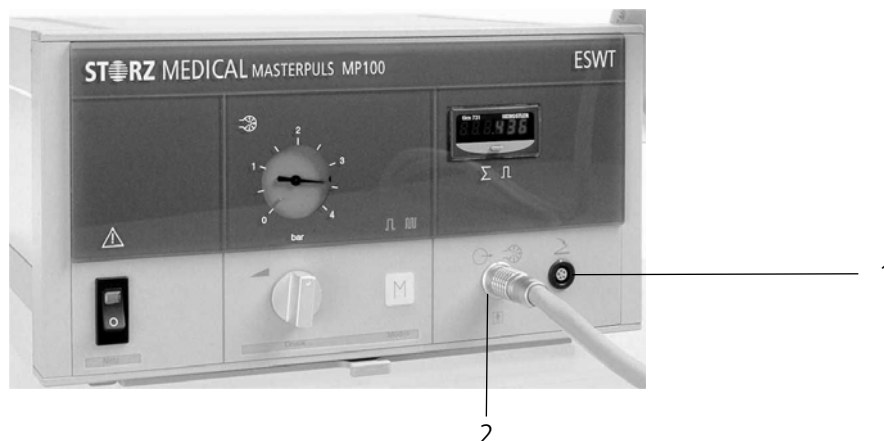

Fig. 2 – 6 Applicator connector
- Connect the applicator cable to the applicator connector (Fig. 2 – 6/2) provided on the MASTERPULS MP100. Make sure that the red spots on the cable connector match the red spots on the applicator connector.
- Connect the foot switch cable (special accessories) to the foot switch connector (Fig. 2 – 6/1) provided on the MASTERPULS MP100.